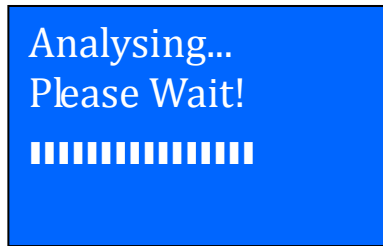

Figure 34
7. Press  key again and it will starts analyzing (Fig. 34)